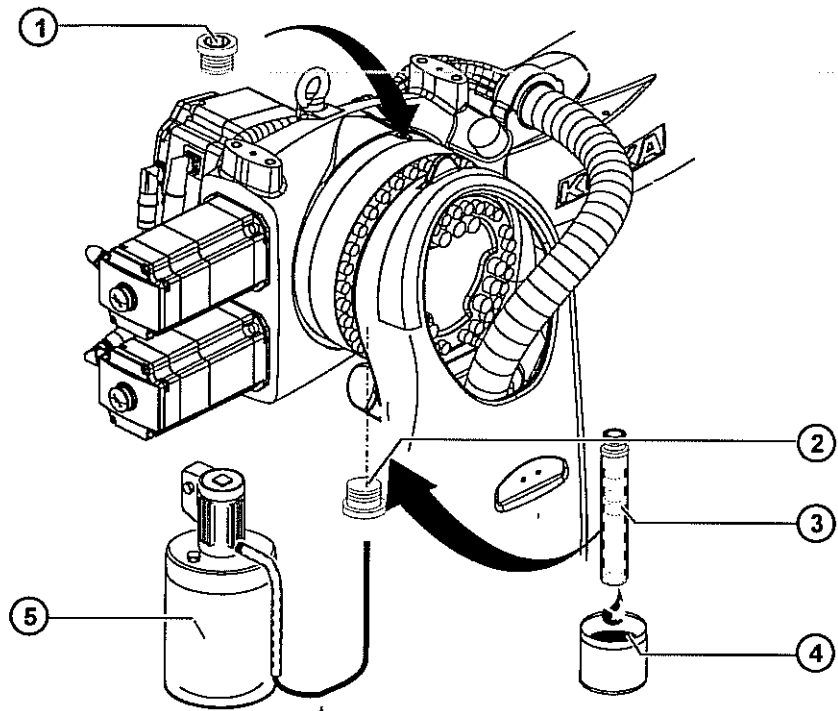

Fig. 10-4: Oil change, A3
1. Place a suitable receptacle (>>> Fig. 10-4) under the (lower) magnetic screw plug and remove the magnetic screw plug.